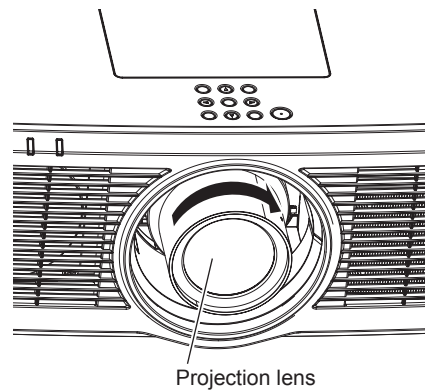

Fig. 2
- 2) Turn the projection lens clockwise to the end. (Fig. 2)